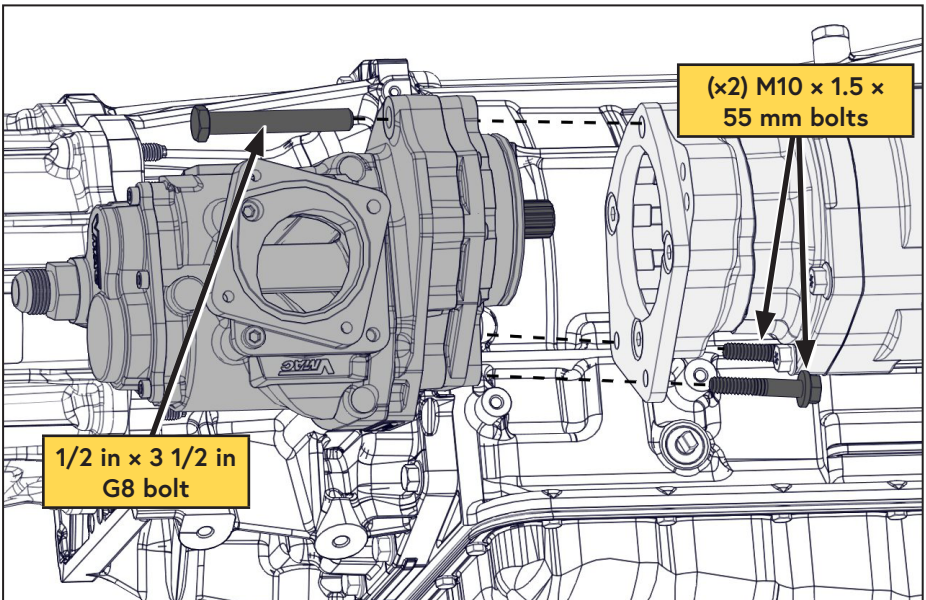

Figure 15 — Mount compressor to PTO
- ☐ Install the compressor onto the PTO (Figure 15).